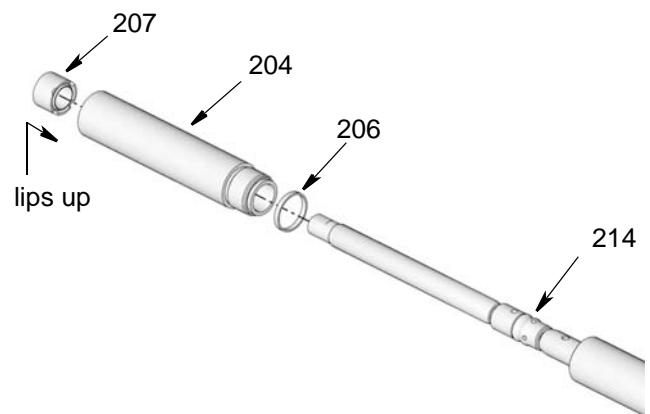

FIG. 42
- Apply a thin layer grease to seal (206) and install around pump cylinder (204) (FIG. 42).
- Apply a thin layer of grease to piston seal (214).
- Thread pump cylinder (204) to spacer cylinder (205). Use a wrench to tighten securely. Torque to 45-55 ft lbs (61-74 N.m).
- Apply a thin layer of grease to intake seal (207) and install seal with lips facing up inside pump cylinder (204) as shown in FIG. 42.